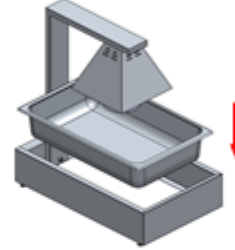

Fig.4
5. Insert the Food pan into the food pan container. [ Fig.4 ]